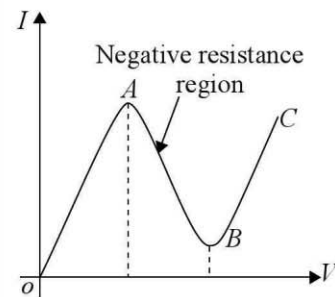

Fig. 19.11 Negative resistance illustration
**Negative Resistance** See Fig. 19.11. In the region AB.